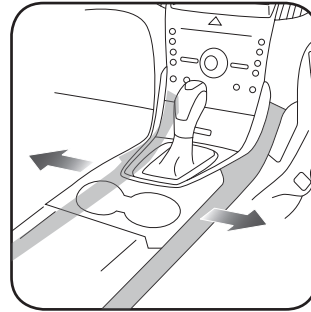

Fig. 1.1
1. Unclip and remove the two (2) trim panels at the left and right of the center console. (Fig. 1.1)